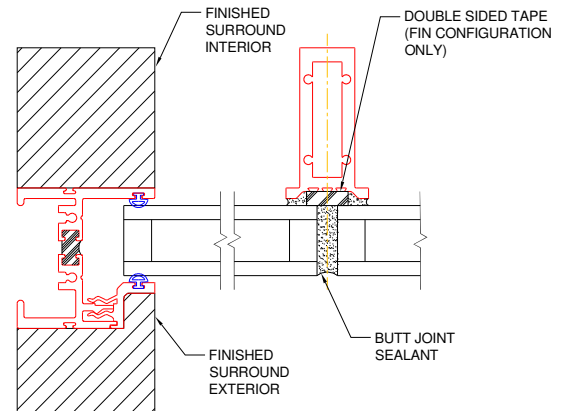

Figure A1:
1. Remove the butt joint sealant. If a fin is present, separate the glass at the top and bottom from the double-sided tape (Figure A1).
1. Determine removal direction (exterior or interior), demo the finished surround at the jambs enough to remove the wedges (Figure A1).